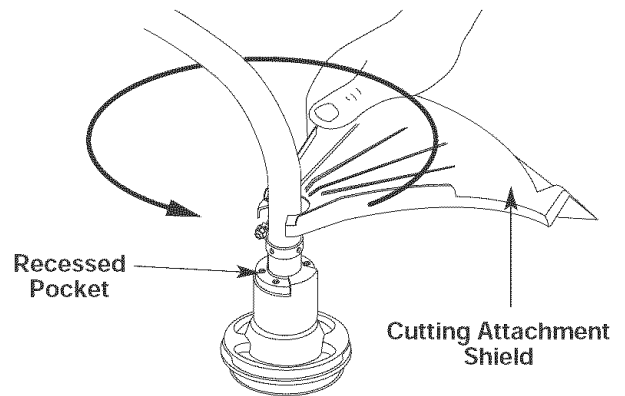

Fig. 3
2. Lower the cutting attachment shield down to the top of the cutting attachment assembly and then rotate the cutting attachment shield until the screw holes align and the guard fits into the recessed pocket (Fig. 3).